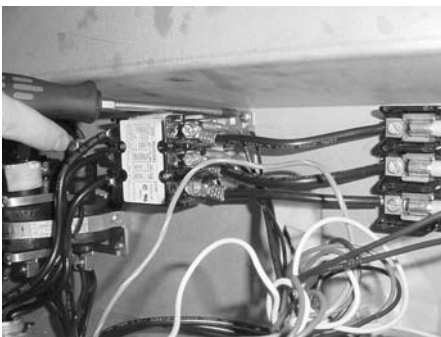

Figure 2-57
2. Remove screws securing contactor to unit and remove contactor. Figure 2-57.